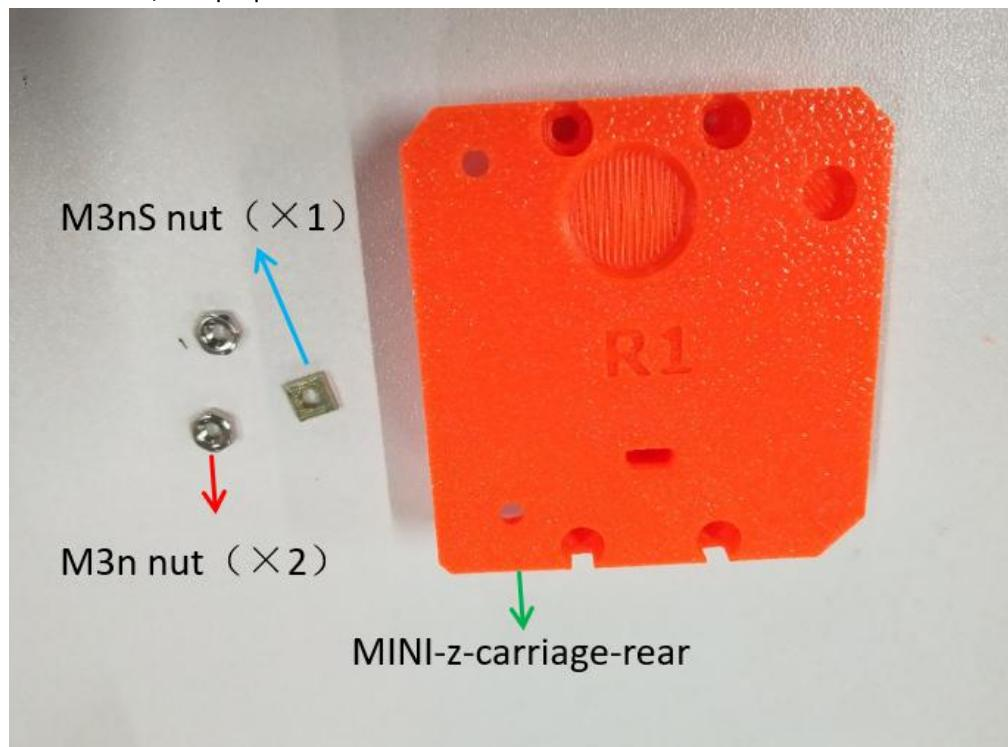

Figure 2.6.1
**Step 2-6-1:** As shown in Figure 2.6.1, prepare the materials and check whether the quantity of materials is correct, and prepare for the next installation.